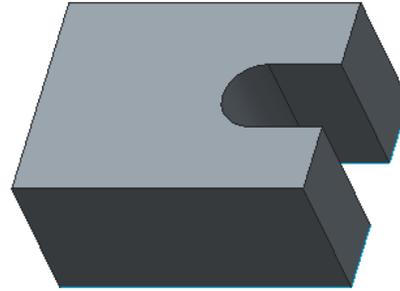

Figure 3-30 The extrude feature created
- Create the model by extruding the sketch, refer to Figure 3-30.
4. Specify the value of extrude as **200** in the edit box and press ENTER. Next, click anywhere in the empty area of the screen; the extrude feature is created, as shown in Figure 3-30.